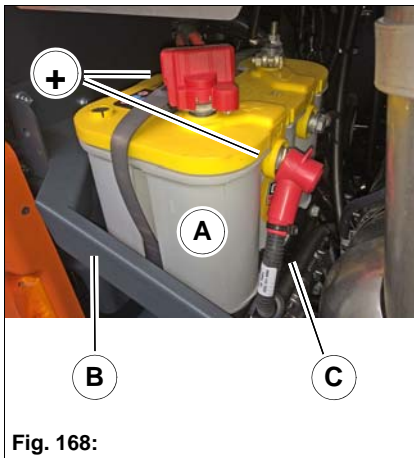

Fig. 168:
The battery **Fig. 168-A** is located on the left behind the vehicle cab.
5. Use a hexagonal socket wrench to loosen the two bolts of the holder for the side cover **Fig. 168-B**.
6. Loosen both bolts of the battery brace **Fig. 168-C** and remove the battery from the side.